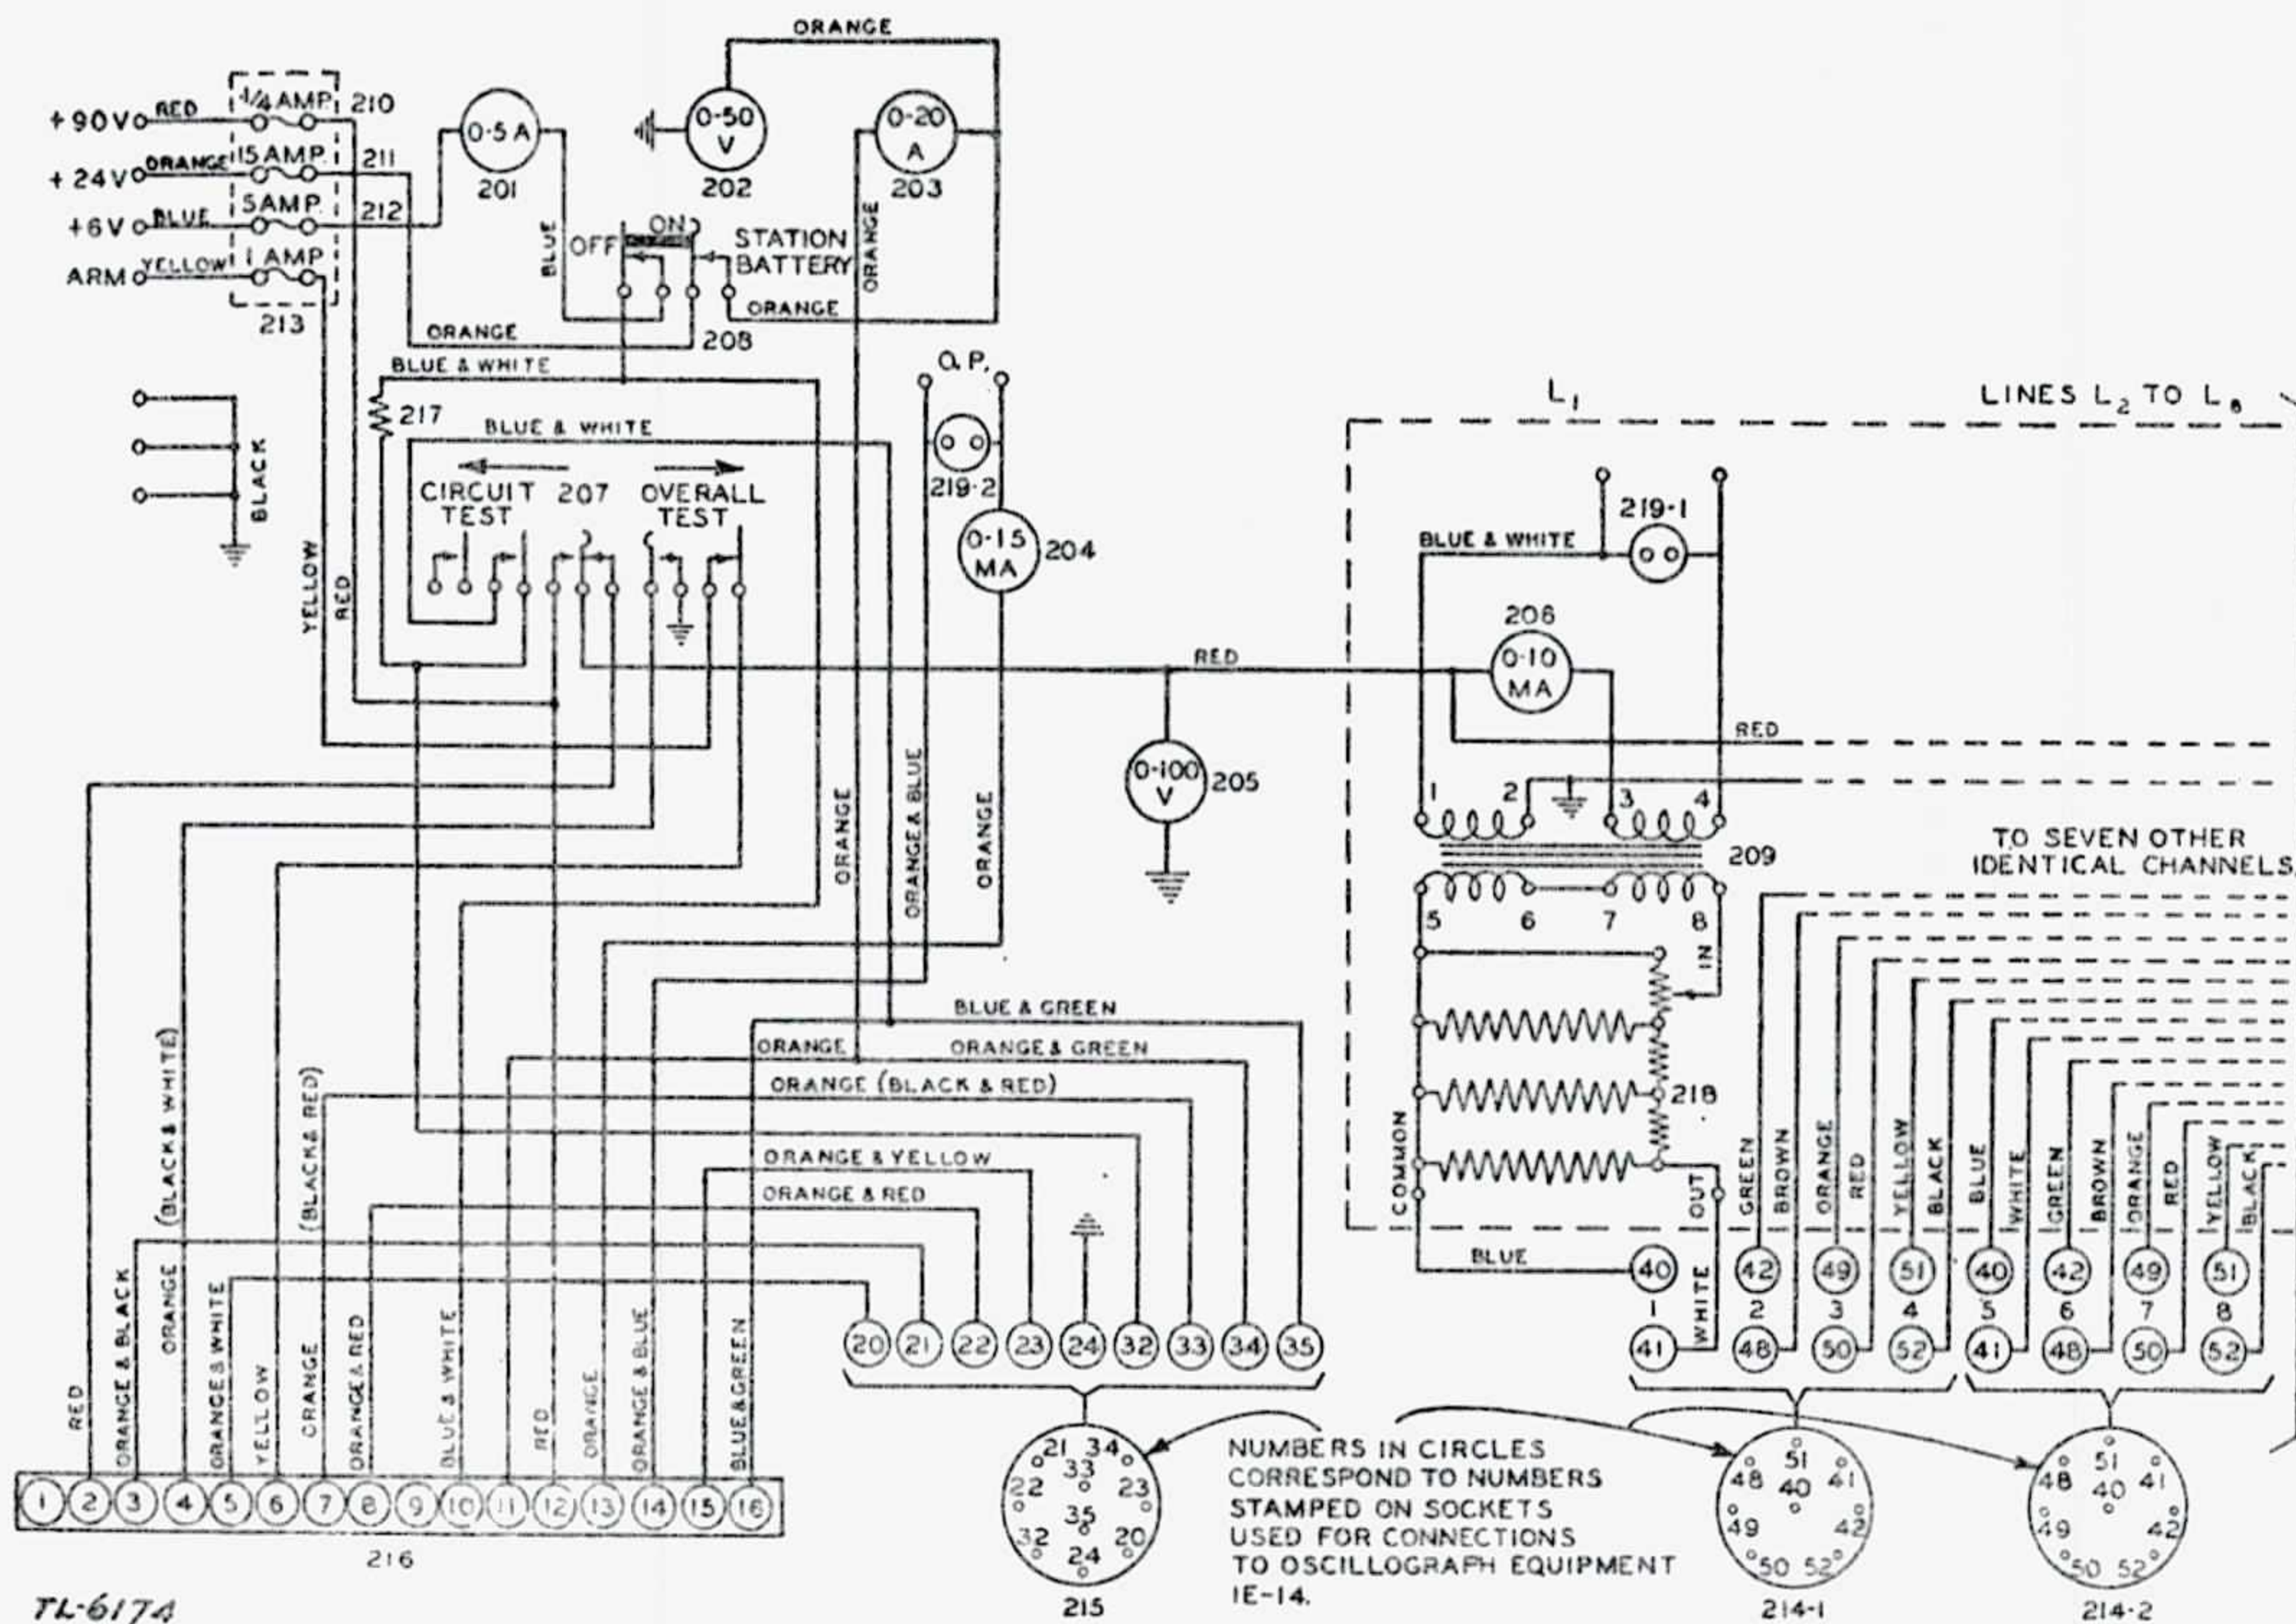

Figure 15.—Control Board BD-85-(*), circuit diagram.
d. The meters are shown in figure 15, the schematic wiring diagram of Control Board BD-85-(*) . The numbers encircled in the diagram refer to the connections of the three sockets at the rear of the control board. A wiring diagram similar to that of figure 15 will be found inside of the control board cover, mounted on the back plate.